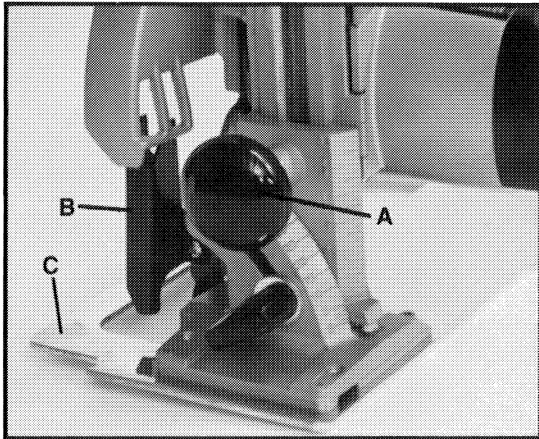

Fig. 4
2. With one hand holding the top handle of the saw, loosen the depth adjusting knob (A), Fig. 4, and lower the base (C) to decrease cutting depth or raise the base (C) to increase cutting depth. Firmly tighten knob (A) at desired depth setting.
Your Porter-Cable saw is equipped with an auxiliary blade guard (B), Fig. 4.